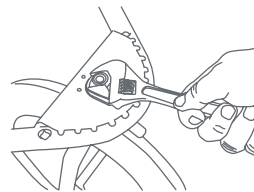
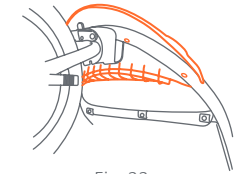

Fig. 22
Fig. 23a
- 22) • Reverse (Fig. 23a). Remove fender to access nut. You can use a standard crescent wrench to tighten the nut (Fig. 22).
- 23) • Line up the front fender and press onto the front frame assembly (Fig. 23a).